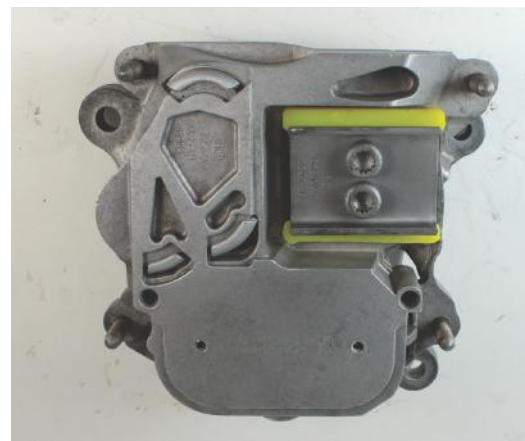

Figure 4: Replace mount plate and screws
5. Replace the plate and screws. Torque screws to 20 nm + 90 Degrees (Figure 4).